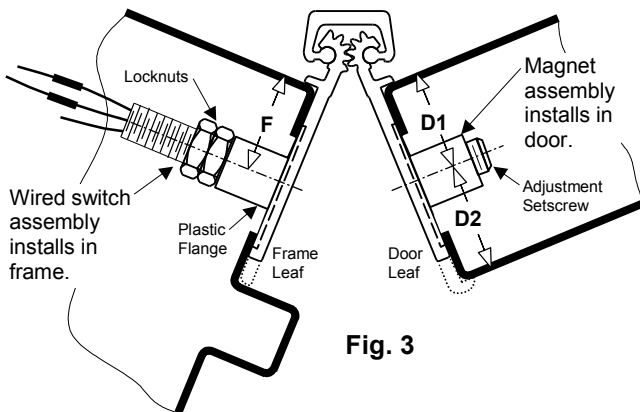

Fig. 3
1. Locate the wired switch assembly. Peel the adhesive liner from the face of the flange. Attach it in the counterbore on the back of the hinge leaf that will be mounted to the *frame*. See Fig. 3.
Peel the adhesive liner from the face of the flange. Attach the magnet assembly in the counterbore on the back of the hinge leaf that will be mounted to the *door*. See Fig. 3.
2. Connect the system wiring to the appropriate leads of the switch. See Fig. 3. Insulate the bare end of any unused wires.